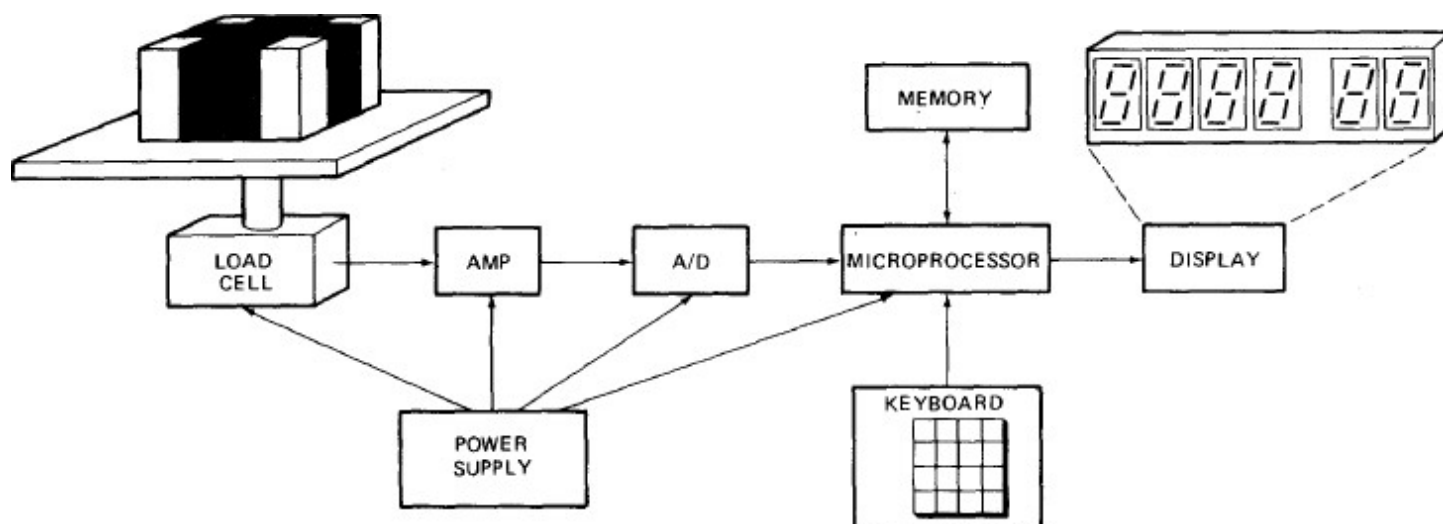

Fig 5.6 Block diagram of microcomputer-based smart scale.
- Figure 5.6 , shows a block diagram of our smart scale.